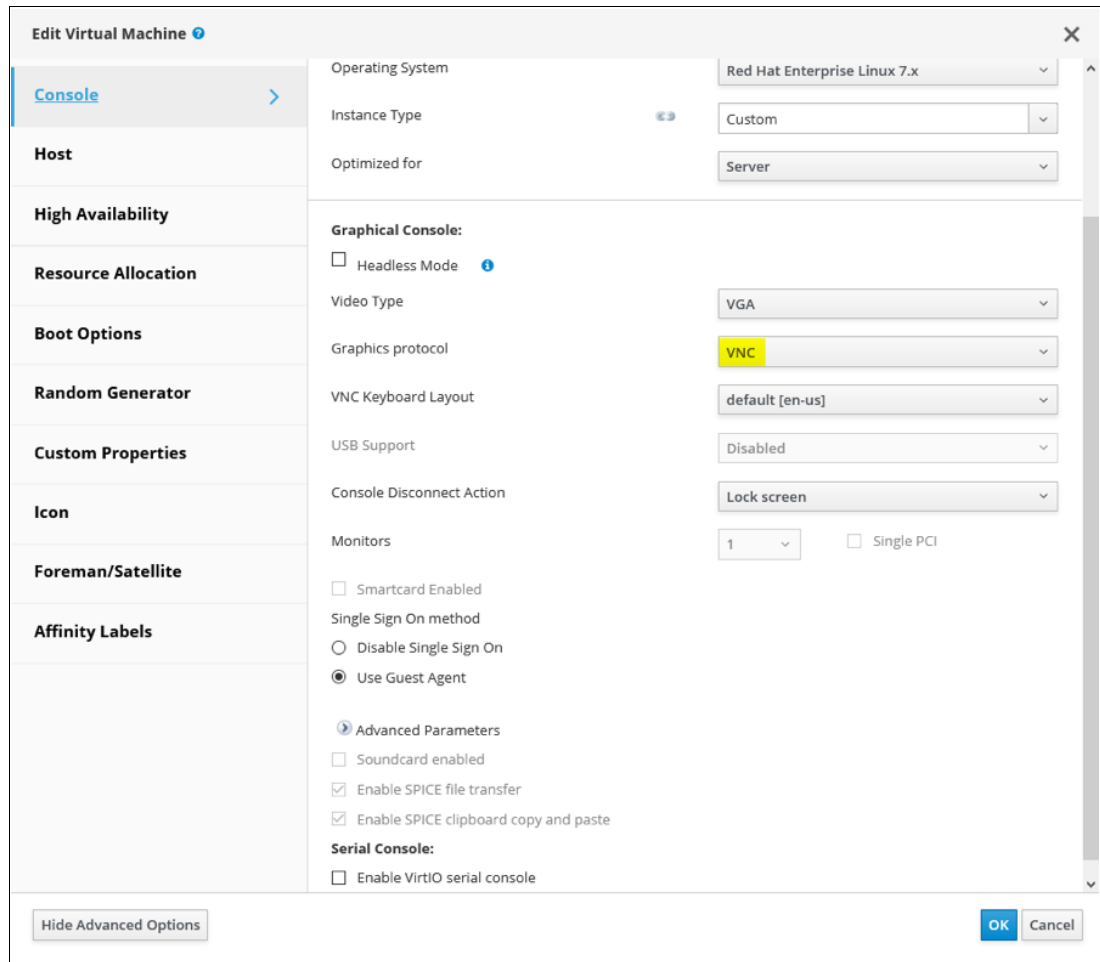

Figure 4-40 Edit Virtual Machine window: Console
5. Complete the fields in the Console menu, as shown in Figure 4-40.